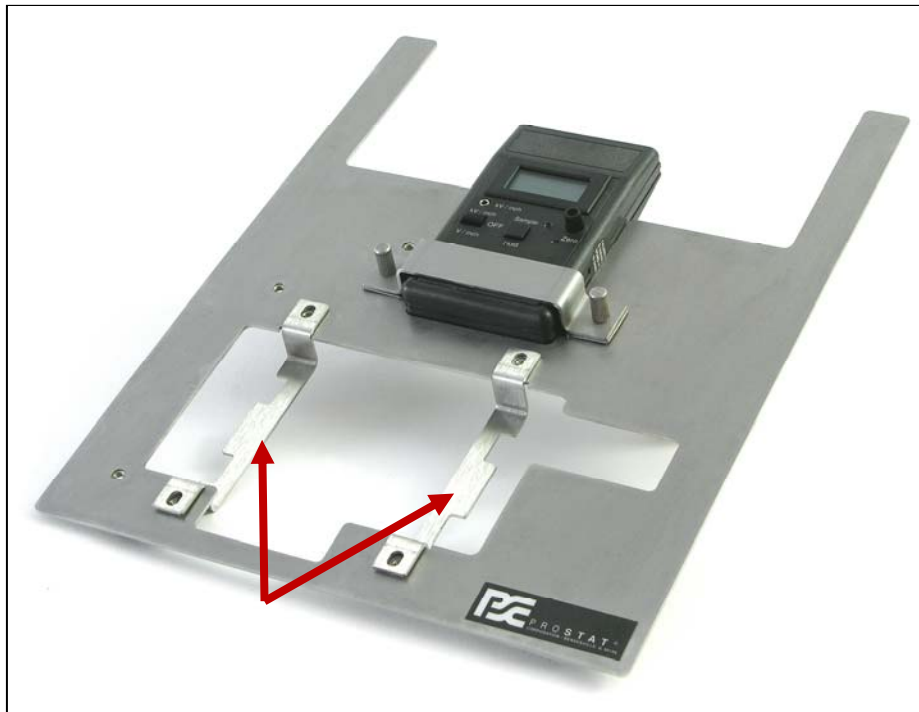

Figure 6: Place PGA-710 Straps into Position. Orient Strap notches to outer edges of the Carrier
7. Place two PGA-710 Straps (Item #4) into Carrier Plate as shown in Figure 6.